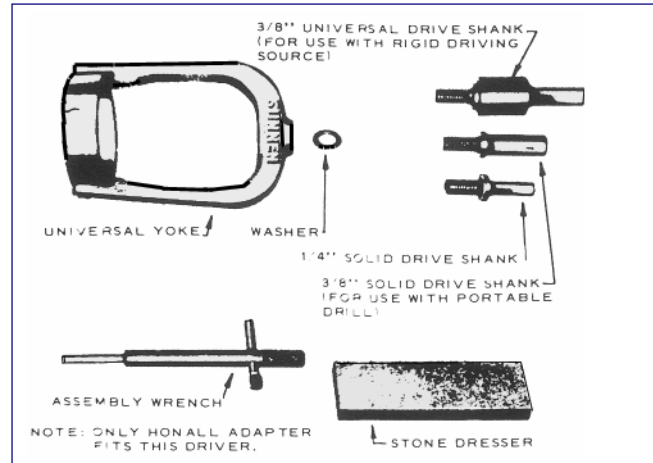

FIGURE 5, Head & Driver Set
1. P-180 should be driven by a portable drill (electric or air) with a speed of 150 to 400 rpm. It may also be driven by a drill press or other rigid driving source providing the 3/8" Universal Drive Shank is used (see Figure 5).
- If rigid driving source is used, be sure to use 3/8" Universal Drive Shank (*refer to Figure 5*).
- If rigid driving source is used, be sure to use 3/8" Universal Shank (*refer to Figure 5*).